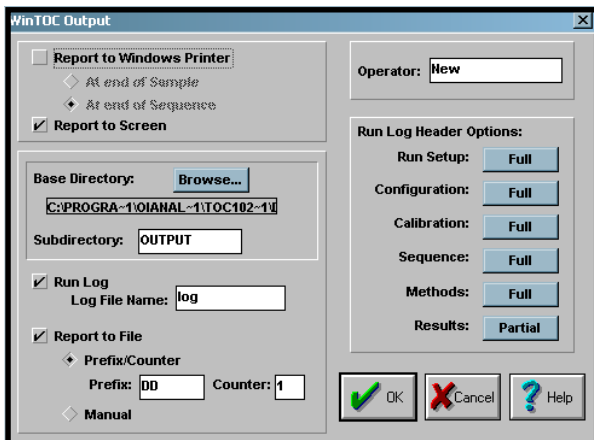

Figure 4.14. Output Screen Settings for Export
4. Set the **Run Log Header Options** to the settings shown in Figure 4.14 by clicking on the corresponding buttons until the desired settings are displayed.